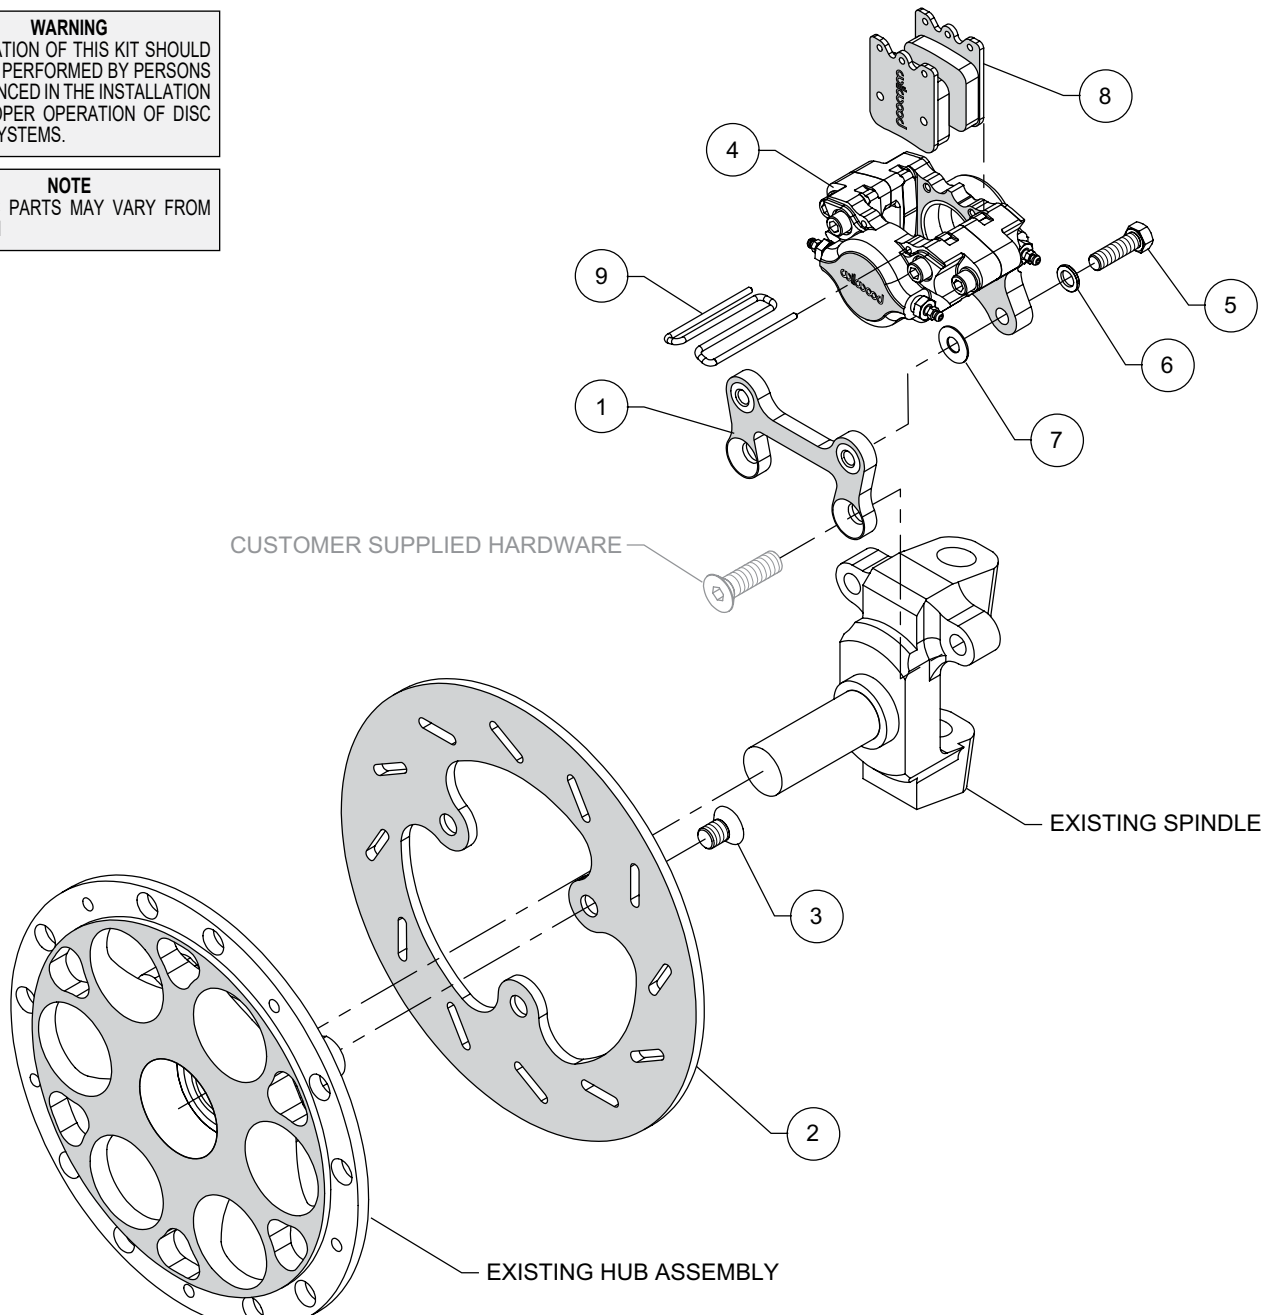
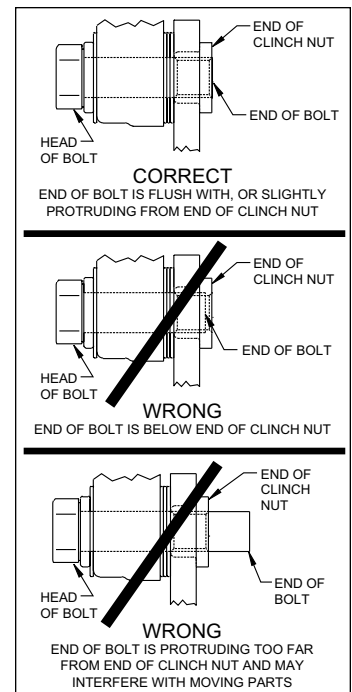

Figure 1. Typical Installation Configuration
Figure 3. Clinch Nut Engagement Diagram
**Assembly Instructions** (numbers in parenthesis refer to the parts list and Figure 1 on the preceding pages): **CAUTION:** All mounting bolts must fully engage clinch nuts. Be sure to check that all bolts are either flush or protruding through flanged side of clinch nut after shimming, Figure 3.
- Orient the caliper mount bracket (1) as shown in Figure 1, and install using customer supplied hardware. Ensure that the flanged heads of the clinch nuts in the bracket are facing outboard. Temporarily tighten the mounting bolts. **NOTE:** The bracket must fit squarely against the mount bosses on the spindle. Inspect for interference from machining ridges, burrs, etc. Remove bolts one at a time, apply red *Loctite*® 271 to the threads and torque to specification.
- Mount the rotor (2) to the existing hub assembly using bolts (3) as shown in Figure 1. Apply red *Loctite*® 271 to the bolt threads and torque bolts to 80 ft-lb.
- **NOTE:** Please reference the caution statement at the beginning of the assembly instructions. Orient the caliper (4), as shown in Figure 1, and install using bolts (5) and washers (6), Figure 1. Initially place one .035" thick shim (7) on each bolt between the caliper and bracket as shown in Figure 1. Temporarily tighten the bolts and view the rotor through the top opening of the caliper. The rotor should be centered in the caliper. If not, adjust by adding or subtracting shims (7) between the bracket and the caliper. Always use the same amount of shims on each of the two mounting bolts. **NOTE:** The end of each bolt must be flush with or slightly protruding from the head of the clinch nut. If necessary, place spare shims between washer and caliper mounting ear to achieve the proper clinch nut engagement, as shown in Figure 3. Once the caliper alignment and clinch nut engagement are correct, remove the bolts one at a time, apply red *Loctite*® 271 to the threads, and torque to 40 ft-lb. For an added measure of security, the bolts may be safety wired